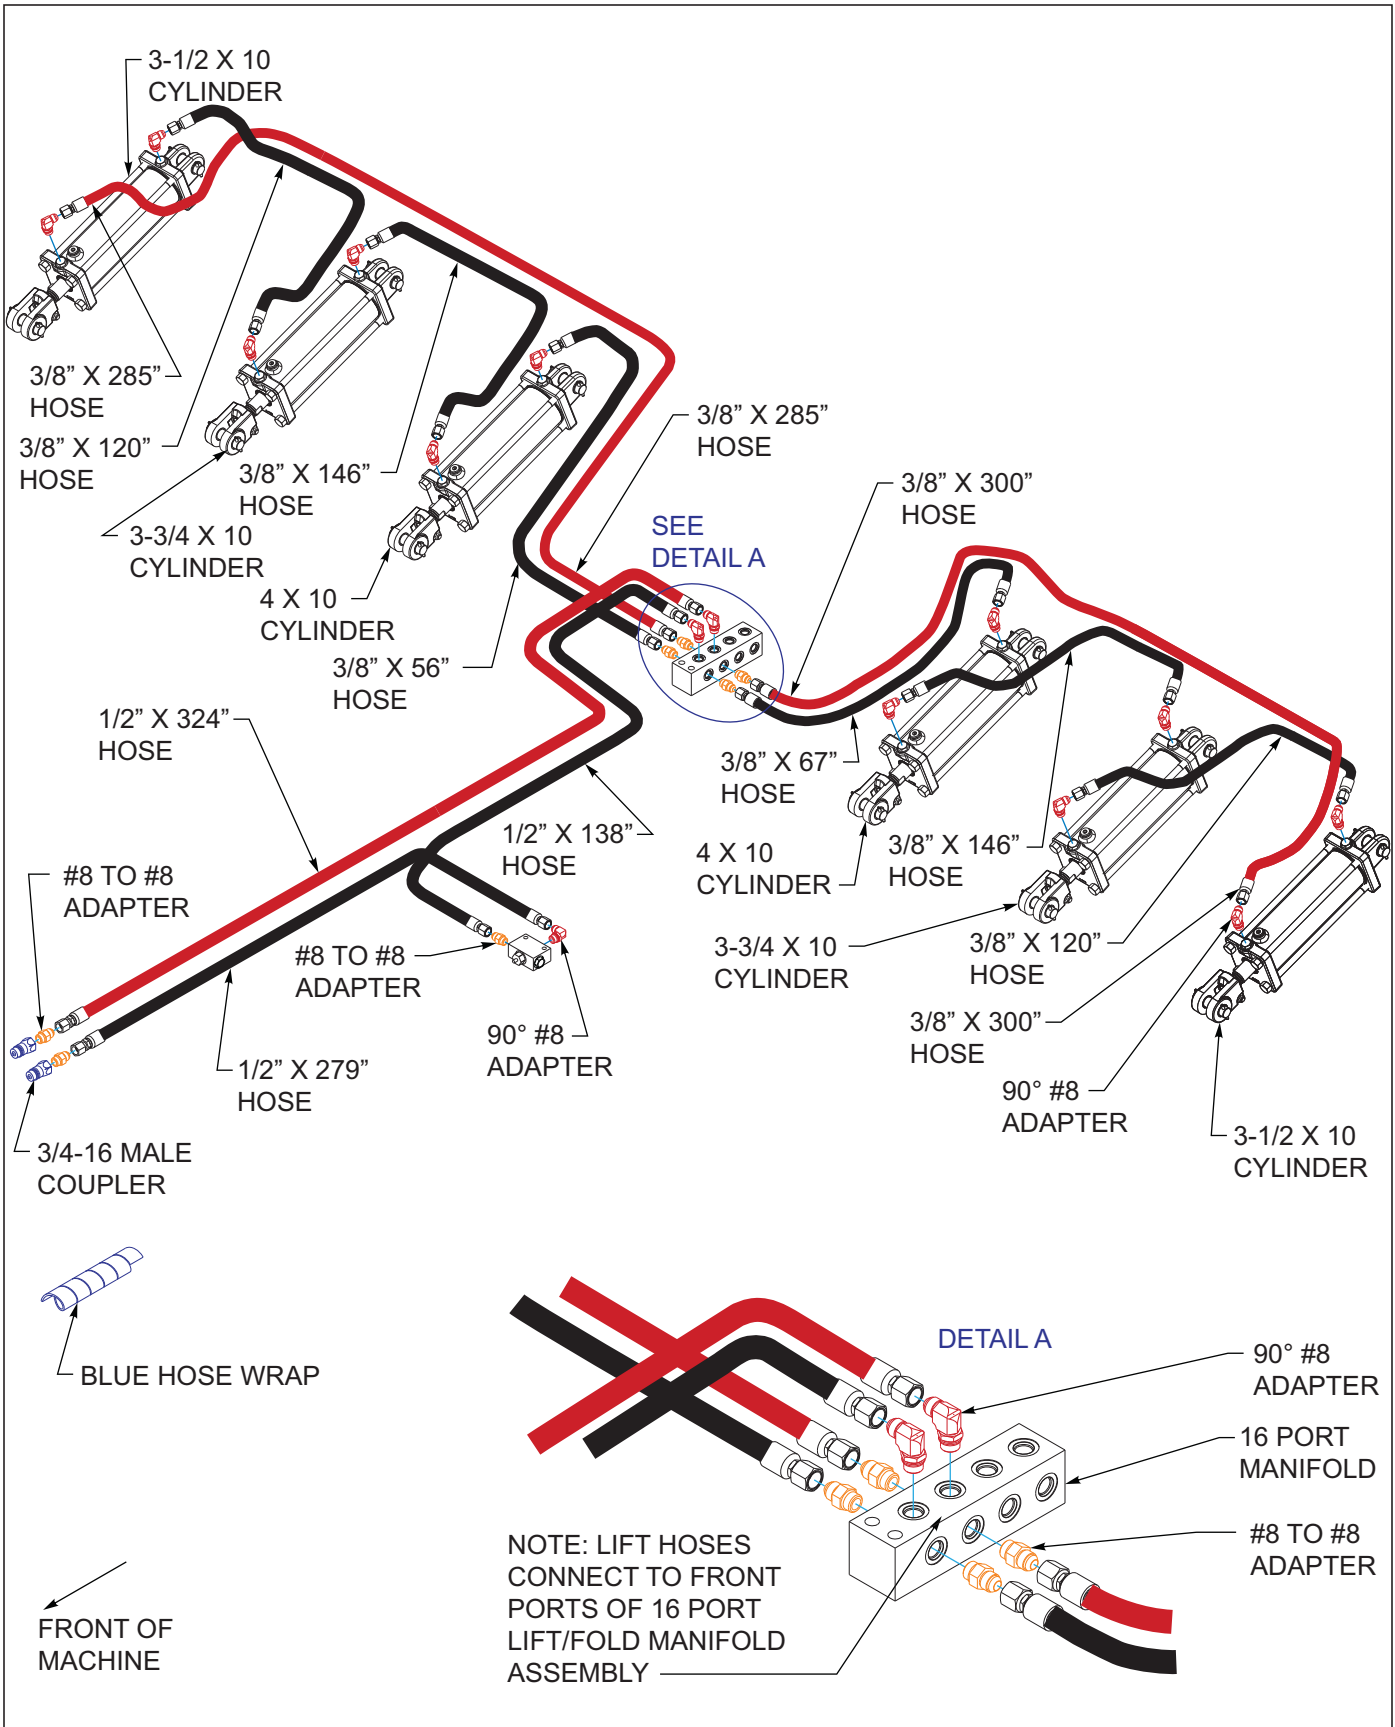

Figure 3-13: Hydraulic Lift Installation 9650-46-50'
- Models 9650-46'-50'** *See Figure 3-13 through 3-15 for hydraulic lift installation and layout.*